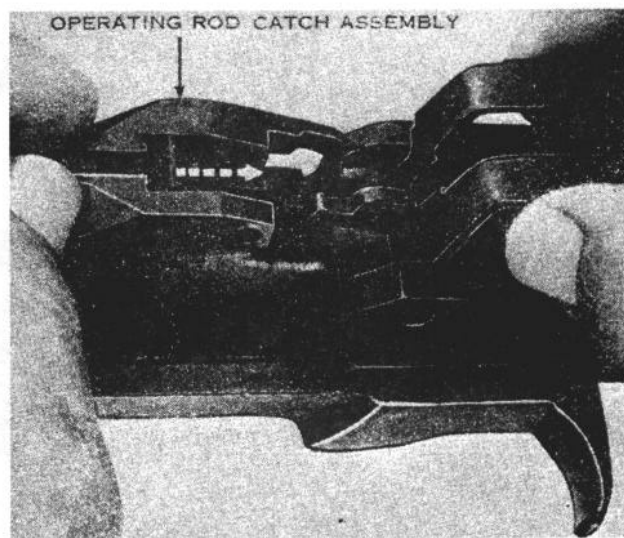

Figure 14. Replacing the operating rod catch assembly.
g. With the right hand, lift up the lower part of the bullet guide slightly. With the left hand, insert the rear arm of the operating rod catch assembly through the clearance cut in the side of the bullet guide. Make sure that the rear arm is underneath the front stud of the clip latch which projects into the receiver (fig. 14). Lower the bullet guide into place. Test for correct assembly by pressing down on the front arms of the operating rod catch assembly. It should move and you should be able to feel the tension of the clip latch spring.